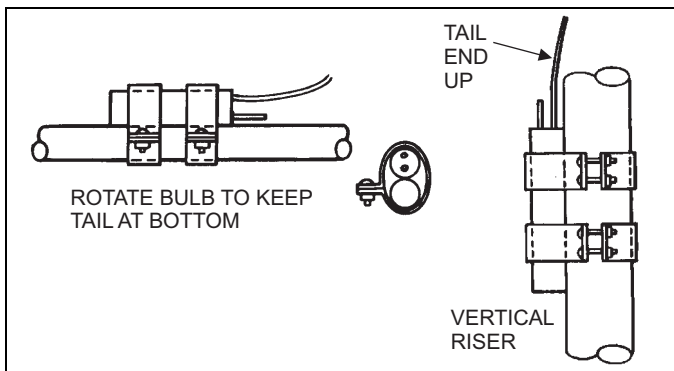

FIGURE 7: Bulb Location
Duct work that is not designed to match the supply air opening can cause turbulence inside the plenum box. This turbulence can change the air flow patterns across the heat kit limit switch. If the factory suggested transition can not be fabricated, it is recommended a block off plate (approximately 8" in height and running the full width of the plenum) be attached to the supply opening. Please refer to Figure 7 as a visual aid. The use of this block off plate will keep better air circulation across the limit switch.
4. Secure the TXV bulb to the suction line with the clamp provided. Choose a horizontal location as close to the cabinet as possible, but not directly on the brazed connection joint. Refer to Figure 7.
6. If the suction line is 3/4" diameter - position the bulb near the top of the copper tube as shown. If the tube is 7/8" diameter - position the bulb near the bottom of the tube. Refer to Figure 7.